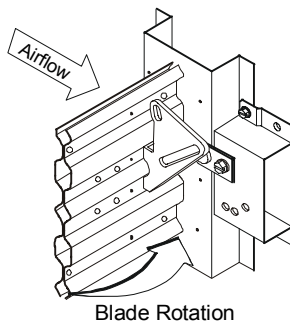

Figure 17: Power Fail Closed with Actuator Mounted Downstream on Right Side of Damper
2. Secure the blade arm to the preferred driving blade for your application. Refer to Figures 17 through 20 for applications.